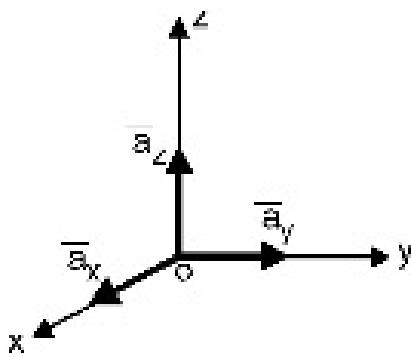

Fig. 6.1.3 : Unit vectors
- Unit vectors in Cartesian system are \bar{a}_x , \bar{a}_y and \bar{a}_z . These vectors are in the positive x, y and z directions as shown in Fig. 6.1.3. Instead of \bar{a}_x , \bar{a}_y and \bar{a}_z many times different notations are used like or \hat{a}_x , \hat{a}_y , \hat{a}_z .